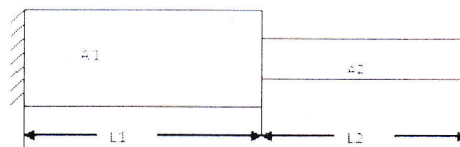

Figure 3
10. For the stepped bar shown in the figure 3. Develop the global stiffness and mass matrices and also determine the natural frequencies and mode shapes. Assume  $E = 200 \text{ GPa}$  and mass density  $= 7850 \text{ kg/m}^3$ ,  $L_1 = L_2 = 0.3 \text{ m}$ ,  $A_1 = 350 \text{ mm}^2$ ,  $A_2 = 600 \text{ mm}^2$ . [10]